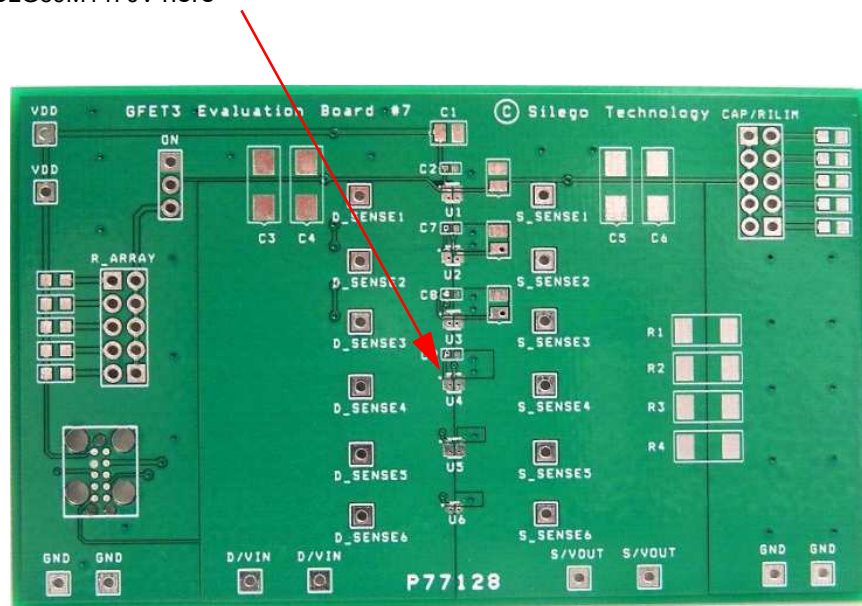

Figure 1. SLG59M1470V Evaluation Board
2. Since the D and S pins dissipate most of the heat generated during high-load current operation, it is highly recommended to make power traces as short, direct, and wide as possible. A good practice is to make power traces with absolute minimum widths of 15 mils (0.381 mm) per Ampere. A representative layout, shown in Figure 1, illustrates proper techniques for heat to transfer as efficiently as possible out of the device;
A GreenFET Evaluation Board for SLG59M1470V is designed according to the statements above and is illustrated on Figure 1. Please note that evaluation board has D_Sense and S_Sense pads. They cannot carry high currents and dedicated only for RDS_{ON} evaluation.